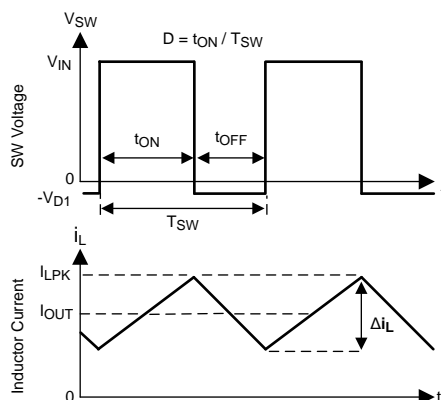

Figure 33. SW Node and Inductor Current Waveforms in Continuous Conduction Mode (CCM)
The following operating description of the LM46001-Q1 refers to the Functional Block Diagram and to the waveforms in Figure 33. The LM46001-Q1 is a step-down Buck regulator with both high-side (HS) switch and low-side (LS) switch (synchronous rectifier) integrated. The LM46001-Q1 supplies a regulated output voltage by turning on the HS and LS NMOS switches with controlled ON-time. During the HS switch ON-time, the SW pin voltage V_{SW} swings up to approximately V_{IN} , and the inductor current I_L increases with a linear slope $(V_{IN} - V_{OUT}) / L$. When the HS switch is turned off by the control logic, the LS switch is turned on after a anti-shoot-through dead time. Inductor current discharges through the LS switch with a slope of $-V_{OUT} / L$. The control parameter of buck converters are defined as duty cycle $D = t_{ON} / T_{SW}$, where t_{ON} is the HS switch ON-time and T_{SW} is the switching period. The regulator control loop maintains a constant output voltage by adjusting the duty cycle D . In an ideal buck converter, where losses are ignored, D is proportional to the output voltage and inversely proportional to the input voltage: $D = V_{OUT} / V_{IN}$.